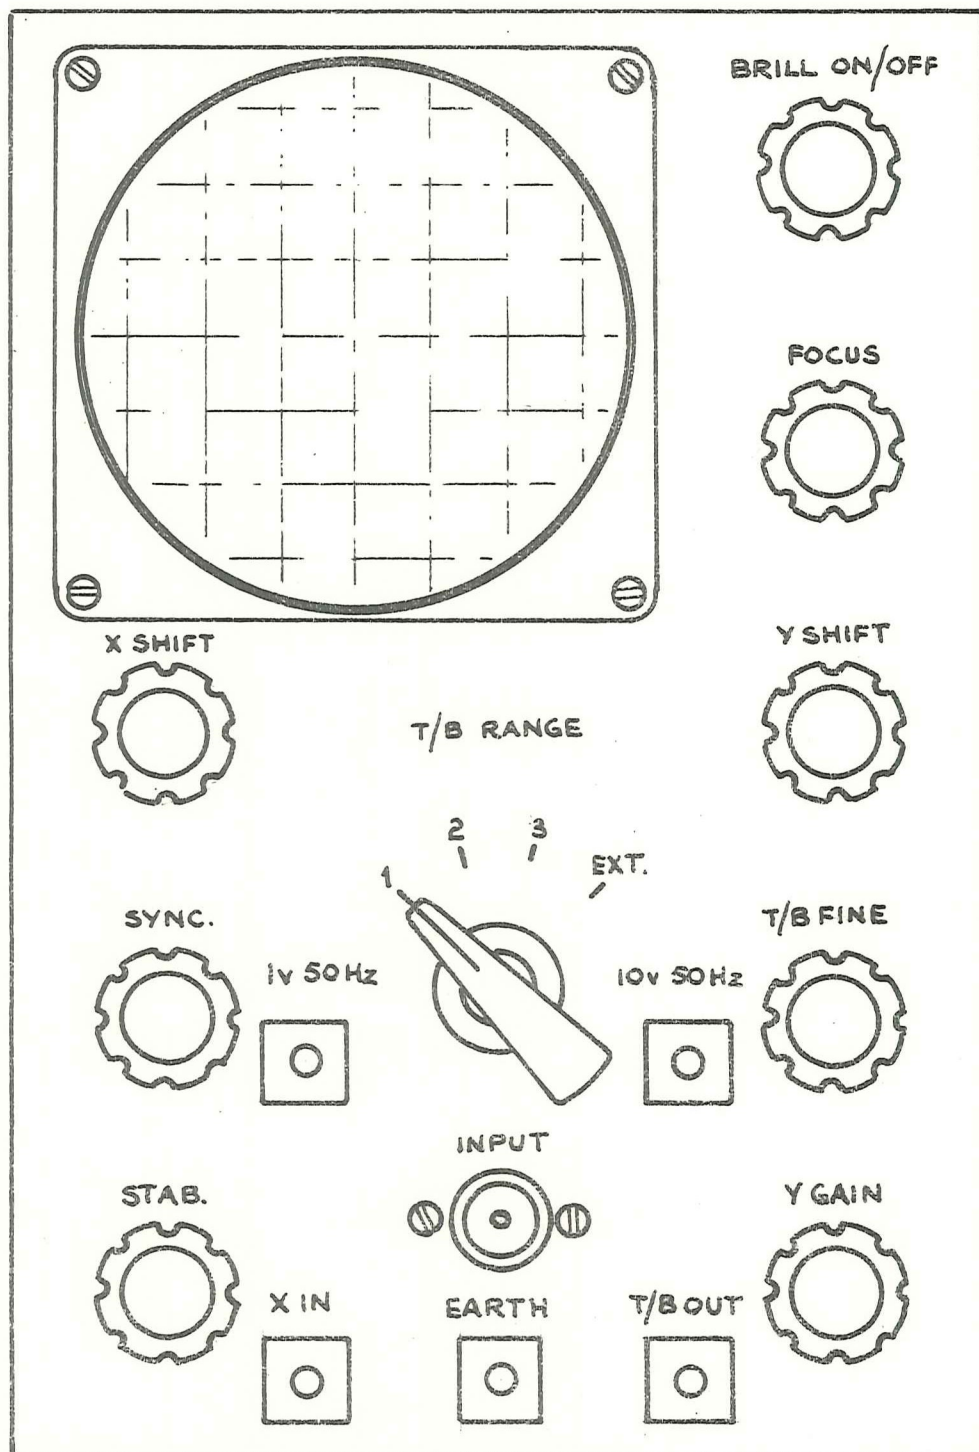

FIG 7. FRONT PANEL LAYOUT.
10. Using 4 - 6 B.A.  $\frac{1}{2}$ " long cheese headed screws, nuts and washers, fit the plastic hood and graticule to the Front Panel, with the graticule clamped between the hood and the front face of the panel as shown in Fig. 7. Do not fit the retaining hood prepared in Step 2 yet.